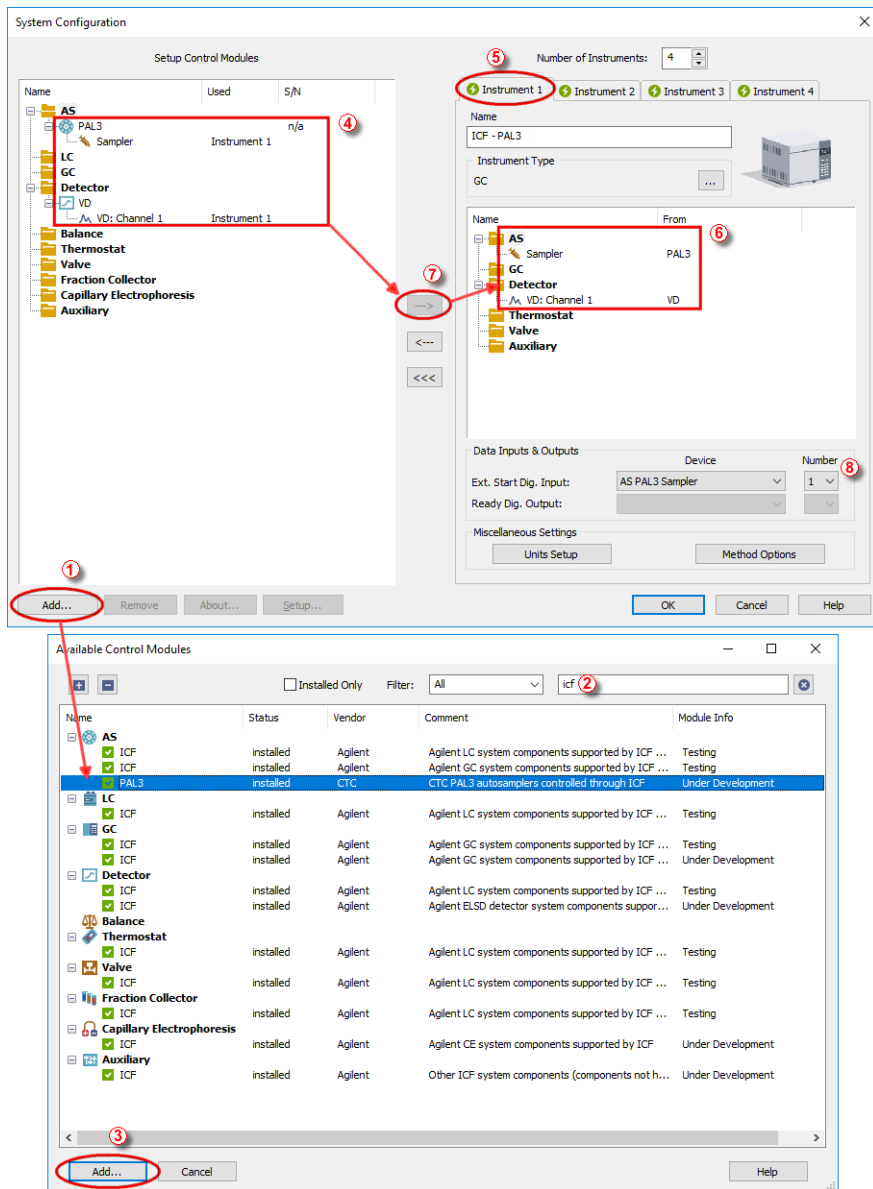

Fig 4: System Configuration
- Press the **Add** button ① (See **Fig 4** on pg 6.) to invoke the **Available Control Modules** dialog.
- You can specify the searching filter ② to simplify the finding of the driver.
- Select the **PAL3** item and press the **Add** ③ button.
**Caution:** When the *PAL3 Setup* dialog is open for extended time, communication between **Clarity** and the AS may be lost, in such case an error message will be displayed. After accepting the error message it is necessary to set the configuration from very beginning, starting with clicking the *Add* button ① (See **Fig 4** on pg 6.) in the **System Configuration** dialog.
- Drag and drop the **PAL3** icon from the *Setup Control Modules* list ④ on the left side of the **System Configuration** dialog to the desired *Instrument* ⑤ tab on the right side ⑥ (or use the  button ⑦ to do so).
- Set the *Ext. Start Dig. Input* ⑧ to "1" -  ⑧ for ICF Sampler to assure correctly synchronized start of the analysis with the **PAL3** sampler's injection.